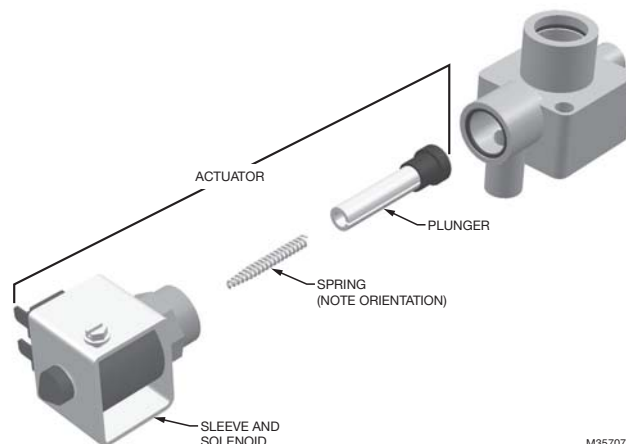

Fig. 24. Drain valve actuator assembly.
7. Reassemble actuator making sure tapered end of spring is oriented as shown in Fig. 24. Tighten brass nut 1/4 turn past hand tight.